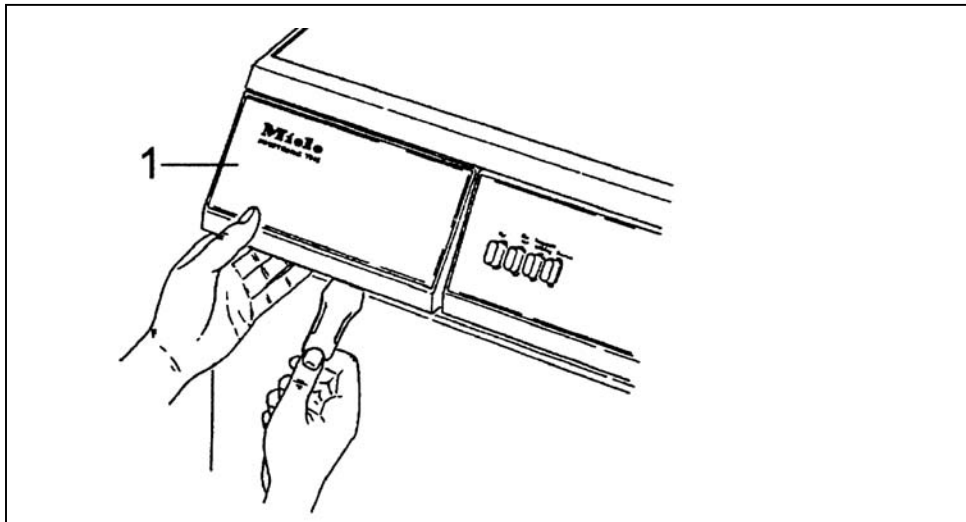

Figure 5-2: Removing the left section of the fascia panel.
1. Remove the left section of the fascia panel using a lid opener (Figure 5-2 – Item 1).